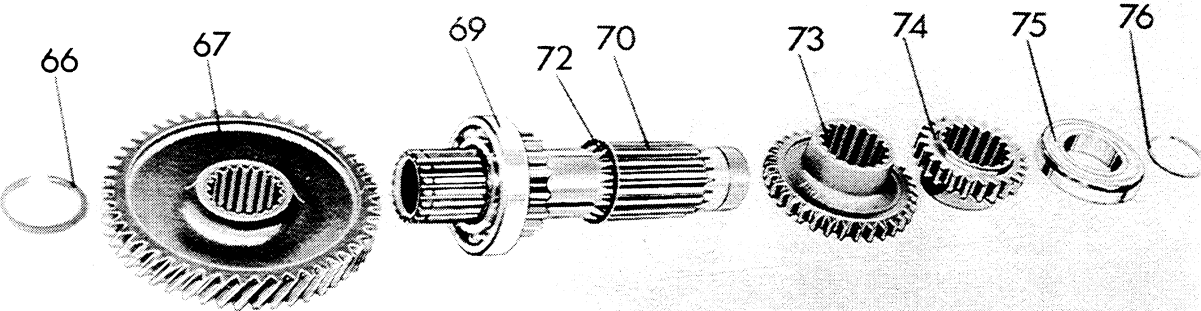

FIG. 16
3. Figure 16. Tap the layshaft forwards to expose the snap ring (72), forward of the third gear pinion (73). Move the snap ring (72) forwards on to the unsplined portion of the layshaft.
4. Remove the snap ring (66) from the front of the layshaft, then tap the layshaft backwards until the constant mesh gear (67) can be removed.
6. Using the hand press MF 200 and the adaptor MF 200-25, press the centre bearing (69) from the layshaft (70).
1. Fig 16. Press the layshaft centre bearing (69) on to the layshaft (70) using MF200 and MF200-25.
2. Refit the snap ring (72) on to the layshaft (70) placing it temporarily on the unsplined portion of the shaft to the rear of the first gear teeth.
3. Feed the layshaft into the transmission case, from the front, progressively fitting the third gear pinion (74) and the second gear pinion (74). Push the layshaft rearwards to permit fitment of the constant mesh gear (67).
4. Refit the snap ring (66) to secure the constant mesh gear (67) and the bearing (69).
5. Tap the layshaft forwards slightly to allow the snap ring (72) to be fitted to its groove adjacent to the third gear pinion (73).
28. Figure 16. Tap the layshaft forwards to expose the snap ring (72), forward of the third gear pinion (73). Move the snap ring (72) forwards on to the unsplined portion of the layshaft.
29. Remove the snap ring (66) from the front of the layshaft, then tap the layshaft backwards until the constant mesh gear (67) can be removed.
31. Using the hand press MF 200 and the adapter MF 200-25, press the centre bearing (69) from the layshaft (70).
5. Fig 16. Press the layshaft centre bearing (69) on to the layshaft (70) using MF200 and MF200-25.
6. Refit the snap ring (72) on to the layshaft (70) placing it temporarily on the unsplined portion of the shaft to the rear of the first gear teeth.
7. Feed the layshaft into the transmission case, from the front, progressively fitting the third gear pinion (73) and the second gear pinion (74). Push the layshaft rearwards to permit fitment of the constant mesh gear (67).
8. Refit the snap ring (66) to secure the constant, mesh gear (67) and the bearing (69).
9. Tap the layshaft forwards slightly to allow the snap ring (72) to be fitted to its groove adjacent to the gear pinion (73).